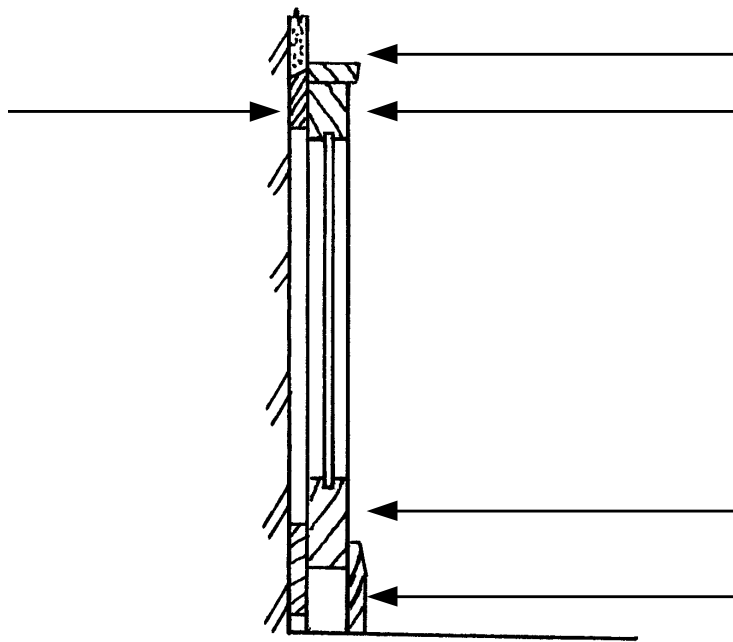

Fig.2
5. Figure 2 shows the vertical section through a dado panelling. Identify the parts indicated.